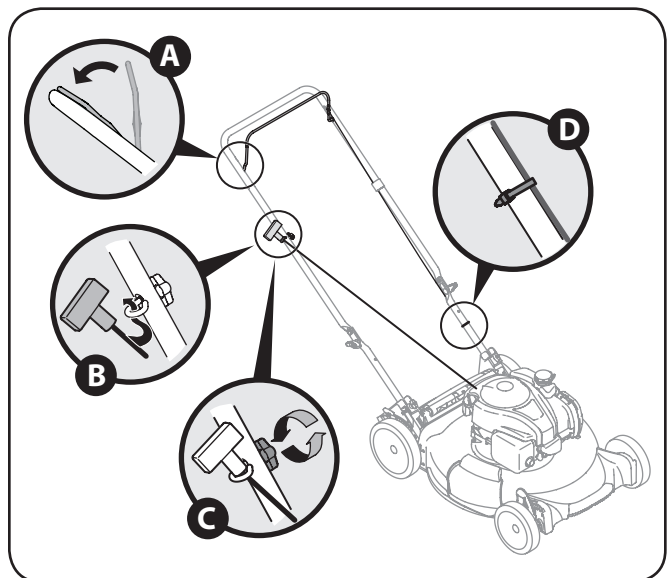

Figure 3-6
- The rope guide is attached to the right side of the upper handle. Loosen the wing knob which secures the rope guide. See Figure 3-6.
- Slowly pull starter rope handle from engine and slip starter rope into the rope guide. See Figure 3-6.